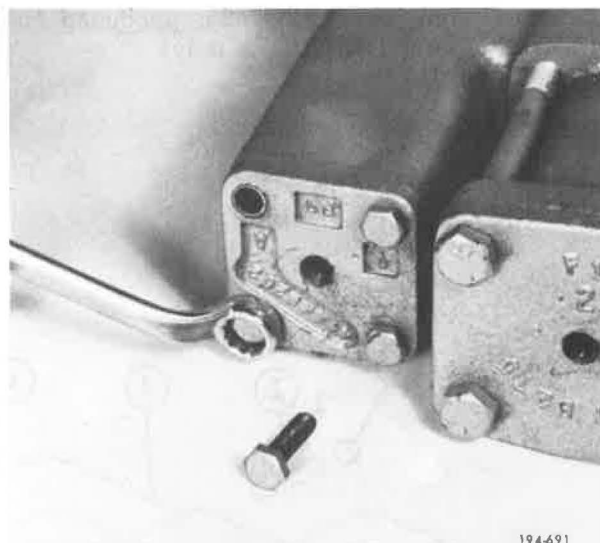

Figure 5-423. Installing Capscrews
21. Install reverse shift cover cap screws, and tighten to recommended torque. Refer to Torque and Tolerance Table, Item 14. See Figure 5-423.